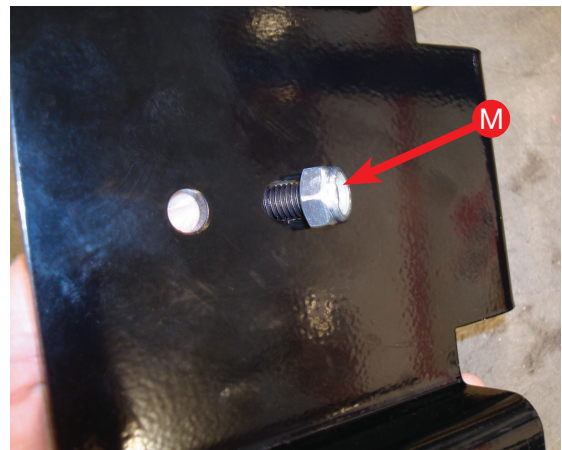

Fig. 9
7. Install the socket head M8 bolt (K) into the frame bracket (A) slot closest to the flange on the bracket (Fig. 8). Cap with the nylon lock nut (M) as shown (Fig. 9).